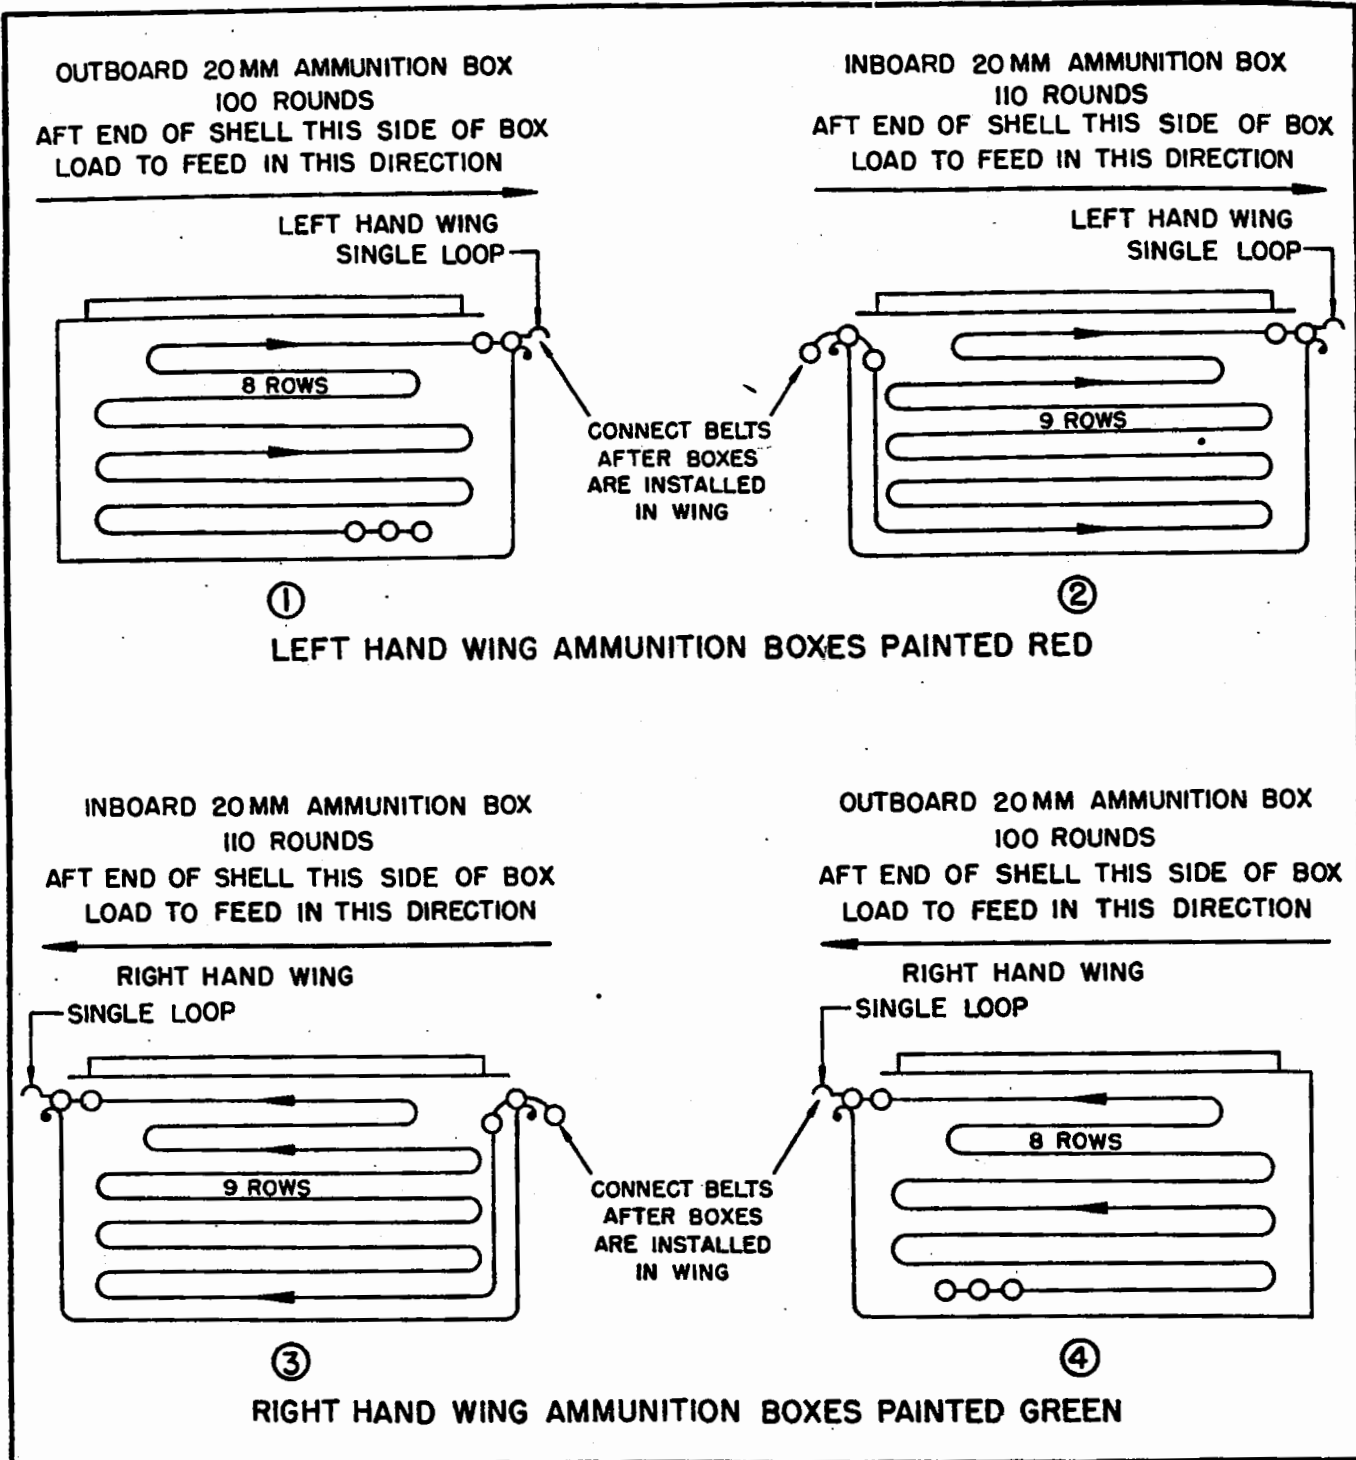

Figure 4-150. Ammunition Box Decalcomanias.
numeral "4" on the inboard boxes. Decalcomanias on the aft sides of the boxes give complete directions for loading (see figure 4-150). Two holes drilled in the top of each box allow insertion of a pin to prevent ammunition belts from falling out when installing the boxes with the wings folded. Two handles attached to the boxes facilitate installation and removal. The cover of the box is hinged and may be opened after unfastening a latch. Two hinged retaining doors (strips) overlap the edges of the boxes and secure them in the wing. Braces hold the doors open in a vertical position. The doors are closed by depressing the brace, and locked by a latch and fastener assembly.
d. Boxes painted red and numbered "1" and "2" (left wing boxes) are loaded so that they feed from left to right. Boxes painted green and numbered "3" and "4" (right wing boxes) are loaded to feed from right to left. Be certain that shell casings face aft. The leading single loop of the ammunition belt must be left empty, open end down, and the last double loop of the belt must contain a round. No special end link is required. Follow the detailed loading directions stamped on each box; see figure 4-150.